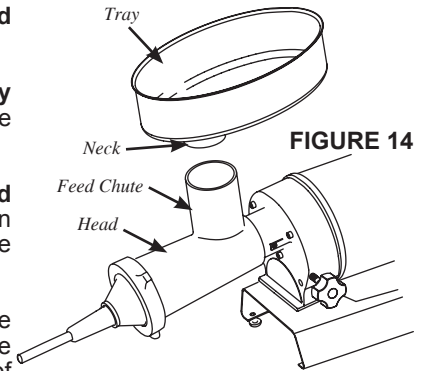

FIGURE 14
7. Insert the neck of the **Tray** into the **Feed Chute** (Figure 14).